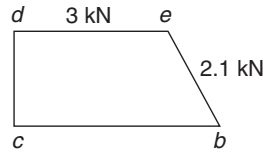

Figure 4.18
To determine  $R_2$  and  $H_2$ , joint (2) can now be considered, as shown by the vector diagram for the joint in Figure 4.18.